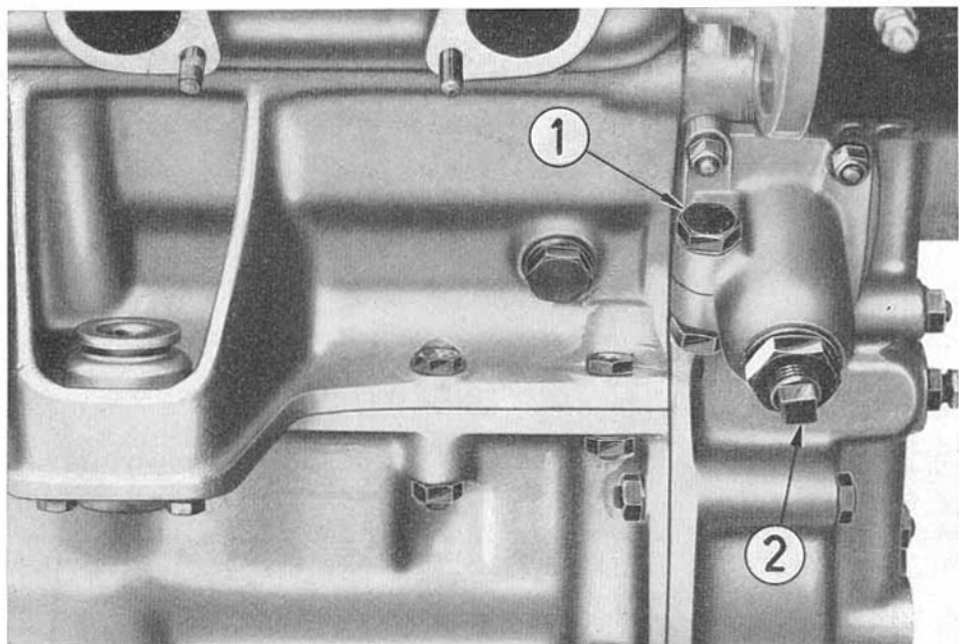

Fig. 27 - Tensioner casing lock-nut (1) Adjuster pin (2).
Should it be necessary to adjust the timing chain tension, slacken lock-nut (1) Fig. 27.
Screw up pin (2) Fig. 27, until it is felt to bear against the tensioner, tighten its lock-nut, and then tighten lock-nut (1) to 62-66 lbs/ft.